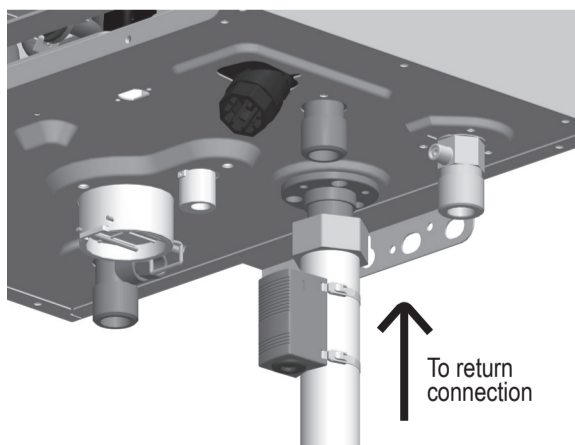

Figure 6
① Fasten to the pipe using the included stainless steel tie bands.
② Temperature sensor must be installed in the vertical position.
③ Sensor orientation must be installed as pictured. See Figure 6.